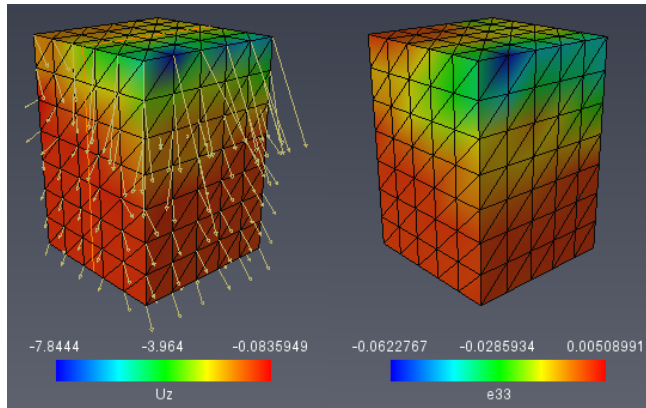

Figure 19.15: 3D visualization of the vertical displacement (left) and axial strain (right)
- To visualize the displacement vectors, connect a *Vector Field* module to *BCI_reference2.disp*. Set the *Scale* port to 25 (open more options on *Scale* port line and change *Max* value setting to 25), *Coloring* port to *Uniform* and select the yellow color from the port *Uniform* color. (see Figure 19.15).